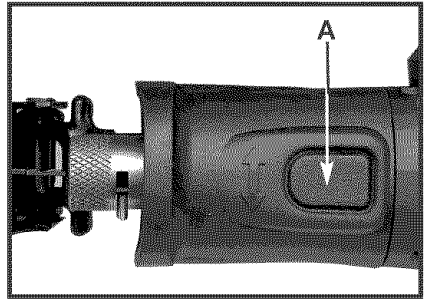
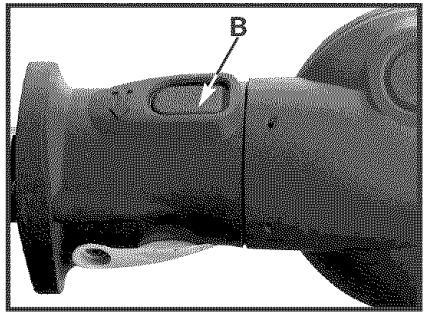

Fig. 8
Fig. 9
3. To rotate the front scroll housing, depress lock button (A) **Fig. 8**. Hold the button depressed while moving the front scroll housing clockwise or counterclockwise to the desired radial position or angle. Then release the lock button and continue to move the front scroll housing until the lock button snaps into the desired detent position (B) **Fig. 9**.